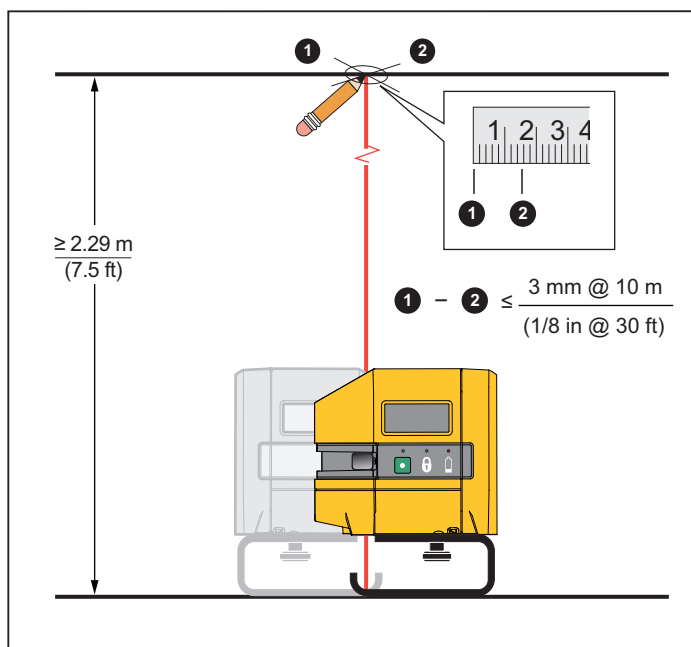

Figure 8. Plumb Accuracy
3. Center the down laser on both axes of the cross mark. See Figure 8.